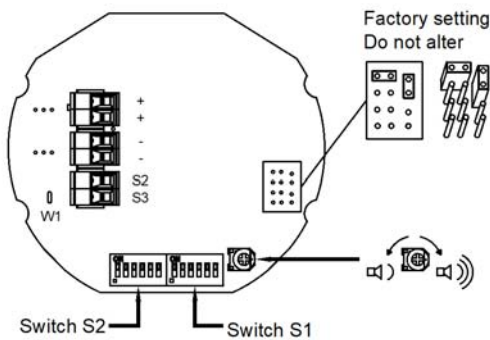
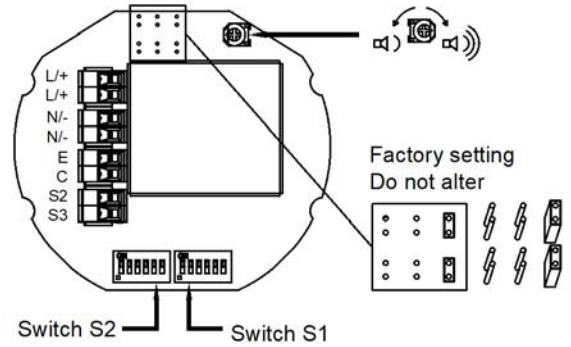

Figure 5: DC PCBA.
Figure 6: AC PCBA .
- Fit an M20/NPT suitably rated cable gland or conduit entry into the hole in the enclosure and connect the field wiring to the appropriate alarm horn terminals as shown in fig. 6 (AC) or fig 5. (DC). The power supply terminals are duplicated so that units may be connected in parallel. An end of line monitoring resistor may be fitted to DC units only (see section 12). If the second and third M20/NPT entries are not used, suitably rated stopping plugs must always be fitted.
The D1x Alarm Horn Sounders have 64 different tones that can be selected independently for the first and second stage alarms. The tones are selected by operation of the tone setting DIP switch 1 & DIP 2 switch 2 (see figures 6 and 7) on the PCB, for stage 1 and stage 2 respectively.